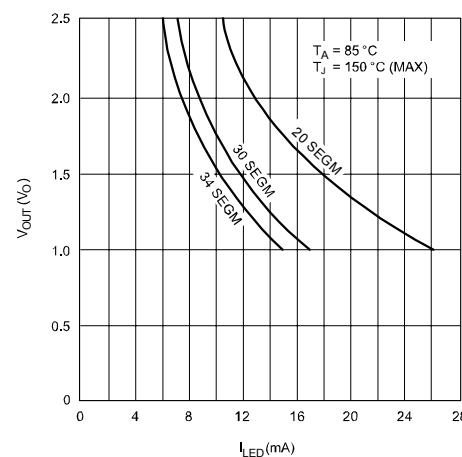

Figure 8.
4. V_{OUT} should be regulated by user. See Figures 8 and 9 for allowable V_{OUT} vs. I_{OUT} operation.